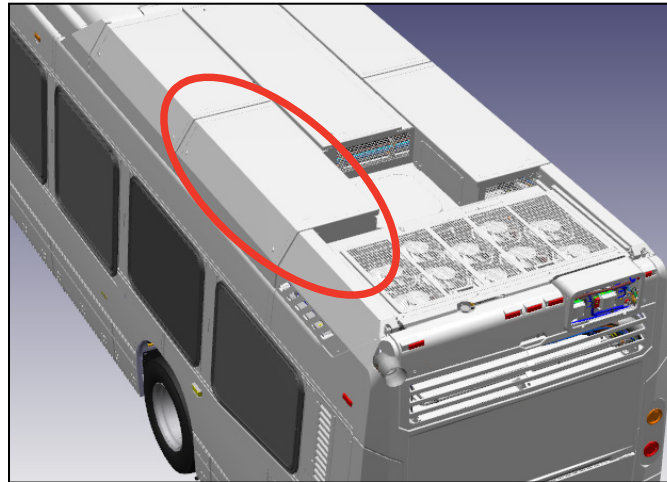

Figure 2 - Typical View of Canopy
- 1.5. Open the first roof canopy on the street side (see Figure 2).